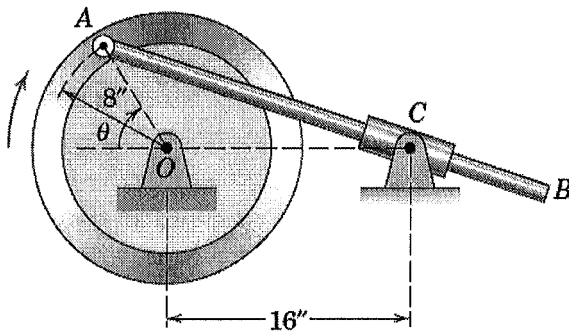

Fig. 7a
7.(a) The flywheel (Fig. 7a) turns clockwise with a constant speed of 600rev/min. The connecting link AB slides through the pivoted collar at C . Calculate the angular velocity ω of AB for the instant when $\theta=60^\circ$. (10)